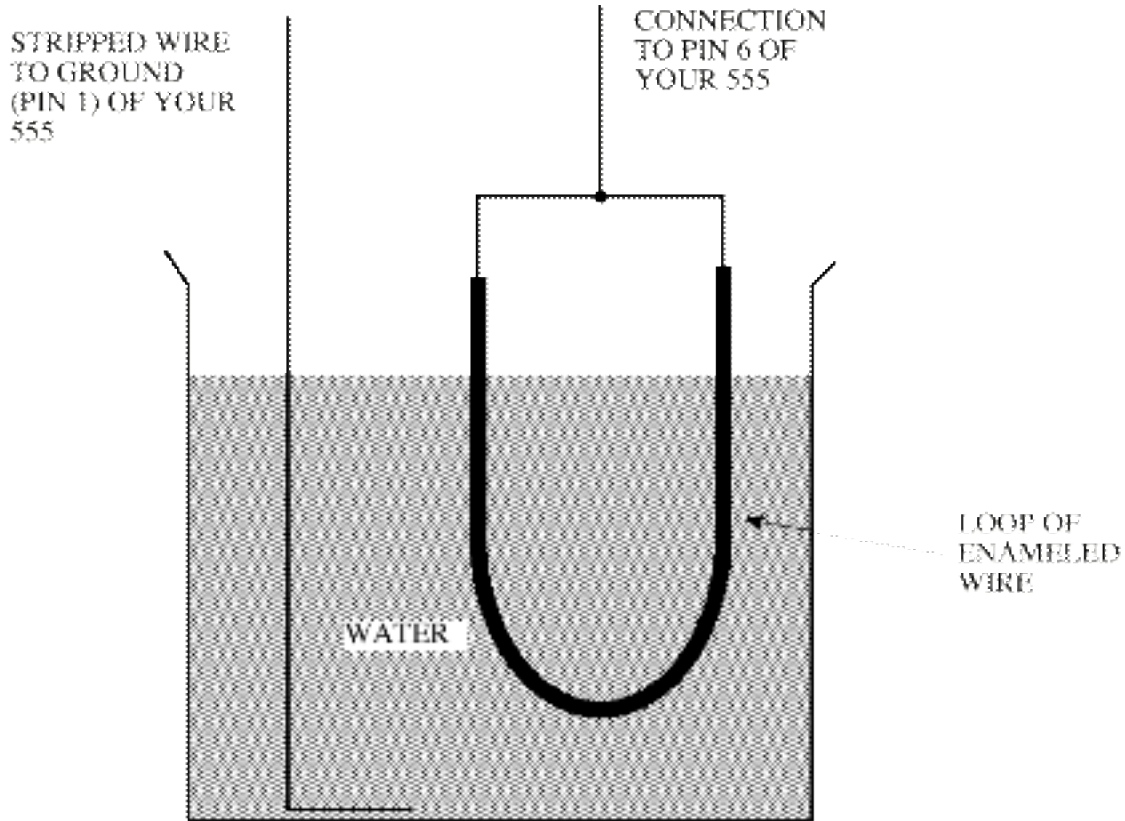

Figure 6. Home made capacitor for water level sensor
- You will now replace C with a homemade capacitor consisting of two connections to a beaker of water. One connection will connect the circuit ground to the water. This can be a simple wire with the end stripped bare. Bend the wire near the end to get an L as shown in Figure 6 (The L shape helps hold the wire in the water and gives a better signal). Place the bent, bare end in the water. The other lead will be made from 10-20 inches of enameled wire — this is thin wire covered with a thin insulating varnish (paint). You may have to sand or scrape the ends of the wire to get a good electrical connection to your circuit. This is not as easy as it sounds! Be sure that no bare metal from this second wire comes in contact with the water. Fold this wire into a loop and place it into a beaker partially filled with water. Connect the two bare ends of this wire together and to your circuit as shown in figure 6